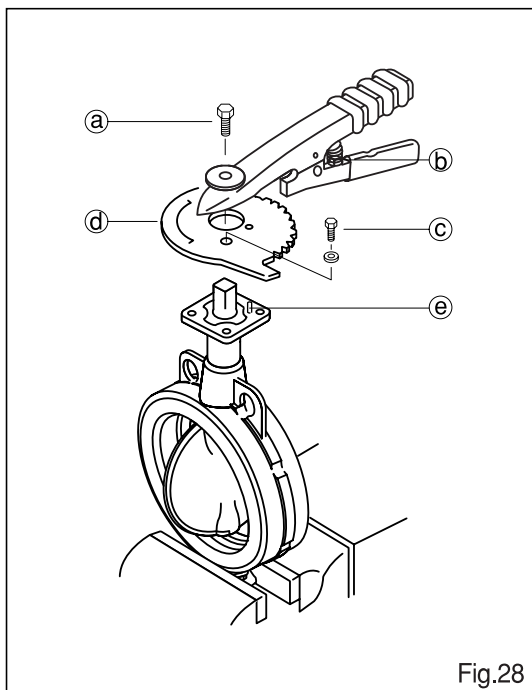

Fig.28
1. Lever operation type (Fig.28)